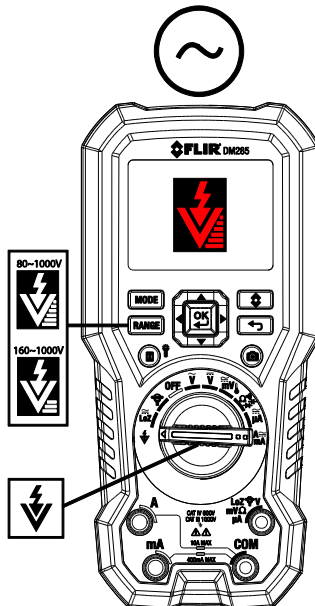

Fig. 9-2 Non-Contact Voltage Detector
1. Set the function switch to the NCV  position. See Fig. 9-2.
3. Use the **RANGE** button to choose High (80~1000V) or Low (160~1000V) Sensitivity range (see the sensitivity icons in Fig. 9-2).